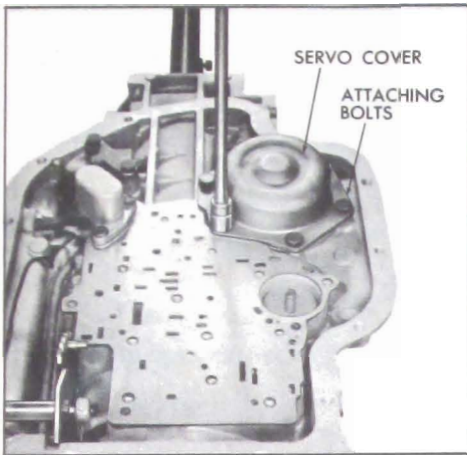

Figure 5-741
4. Install attaching screws. Torque bolts to 15-20 ft. lbs. See Figure 5-741.